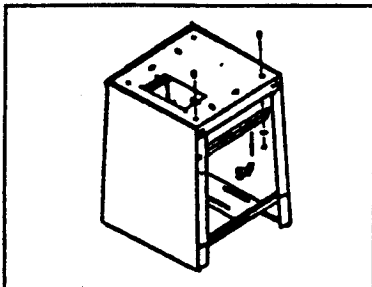
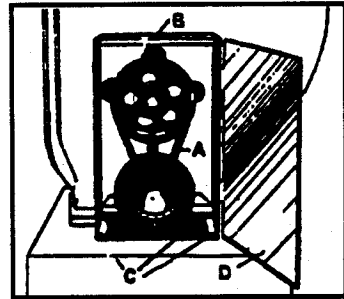

Fig. 6
Fig. 12
Please Remember to Tighten all screws and check that if the stand is firm enough. Fig. 6.
Place the belt and pulley guard(B) Fig. 12, on the top shelf over the belt opening. Use the four round head screws(C). to fasten in place. Place door(D) Fig.6. on hinges.